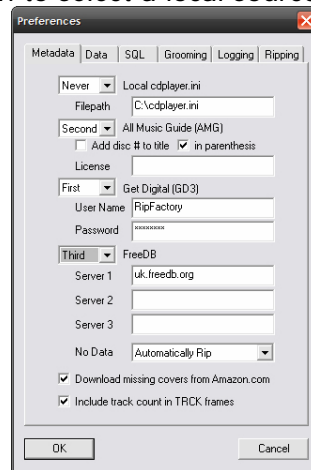

Figure 3.0 – Preferences Dialog Box
1. Open the RipStation software and on the main screen click the Preferences icon. The dialog box shown in figure 3.0 opens.